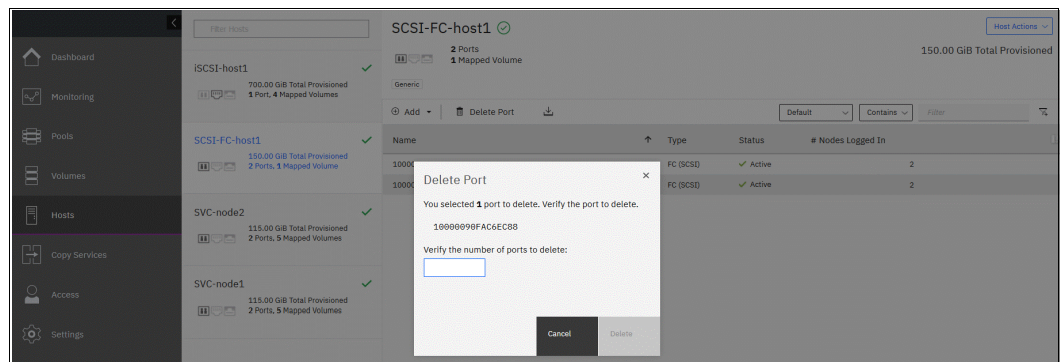

Figure 7-72 Entering the number of host ports to delete
2. Click **Delete** and confirm the number of host ports that you want to remove by entering that number into the **Verify** field (see Figure 7-72).